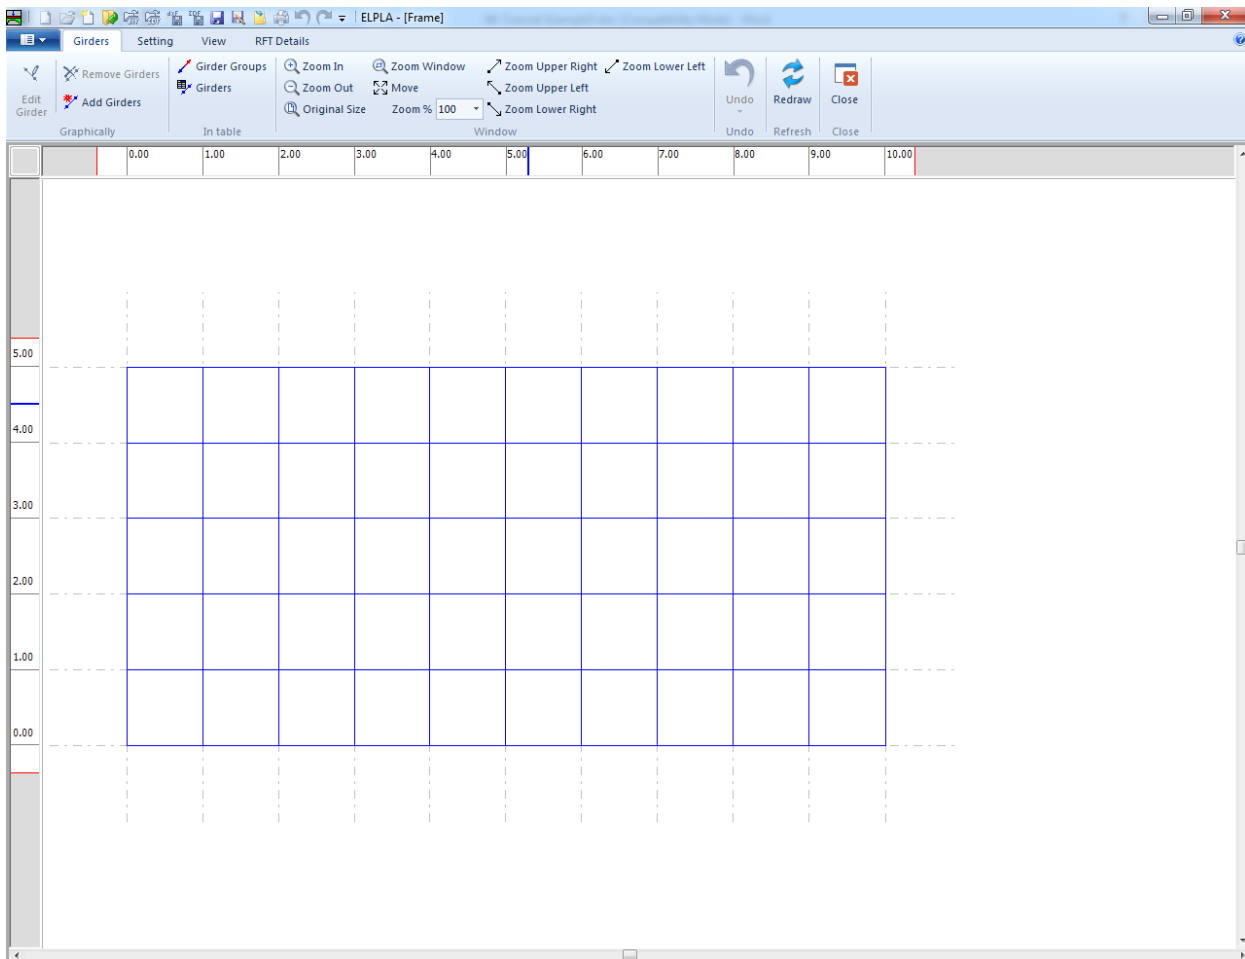
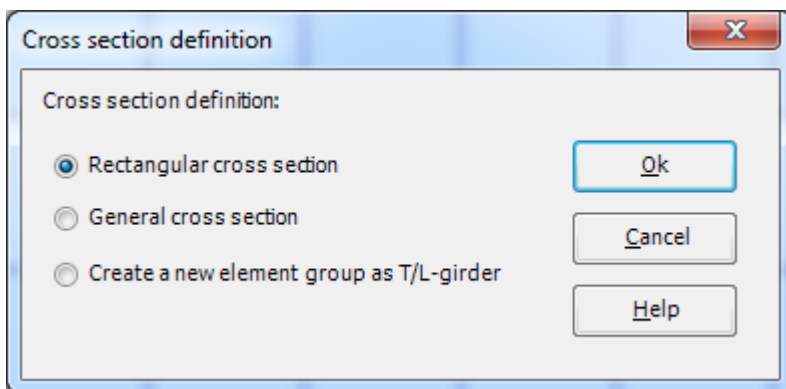

Figure 7.11 "Girders" Window
Figure 7.12 "Cross section definition" option box
To define the frame members, choose "Girders" command from "Data" Tab. The following Window in Figure 7.11 appears.
- Choose "Girder Groups" command from "In table" menu in Figure 7.11. The following option box in Figure 7.12 appears